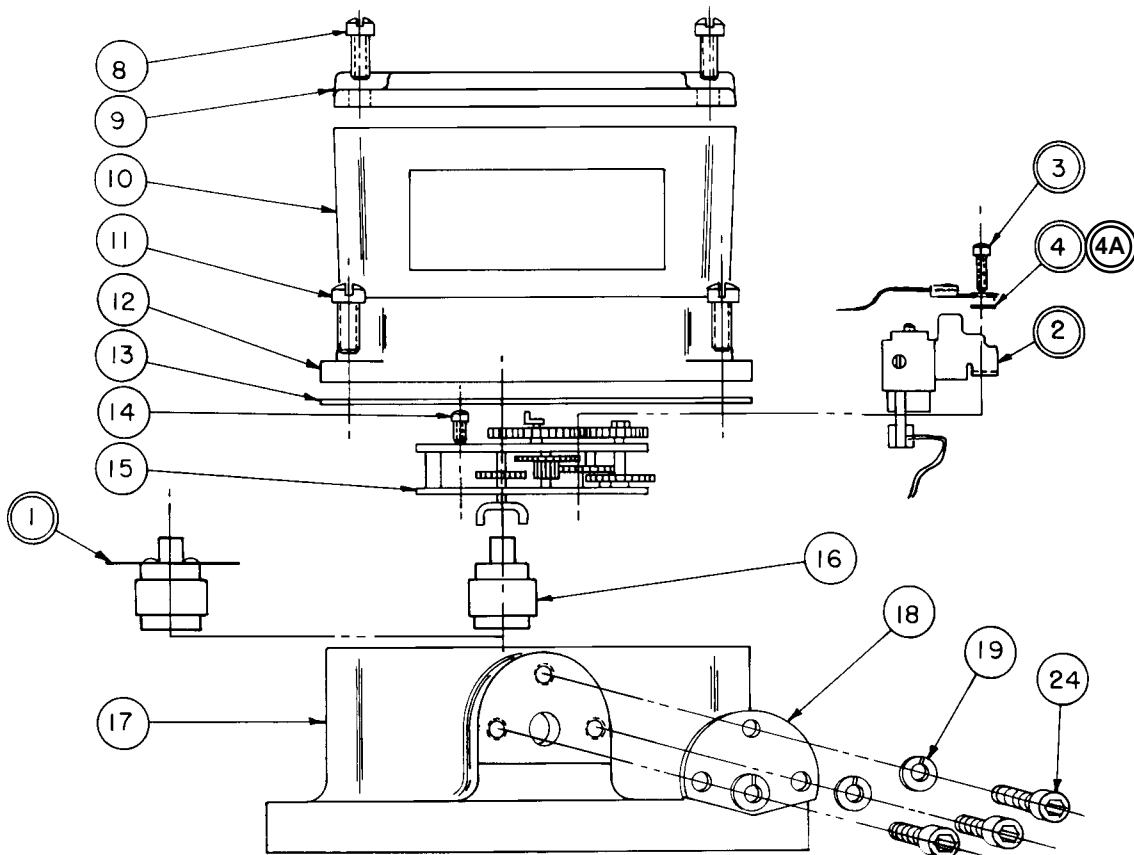
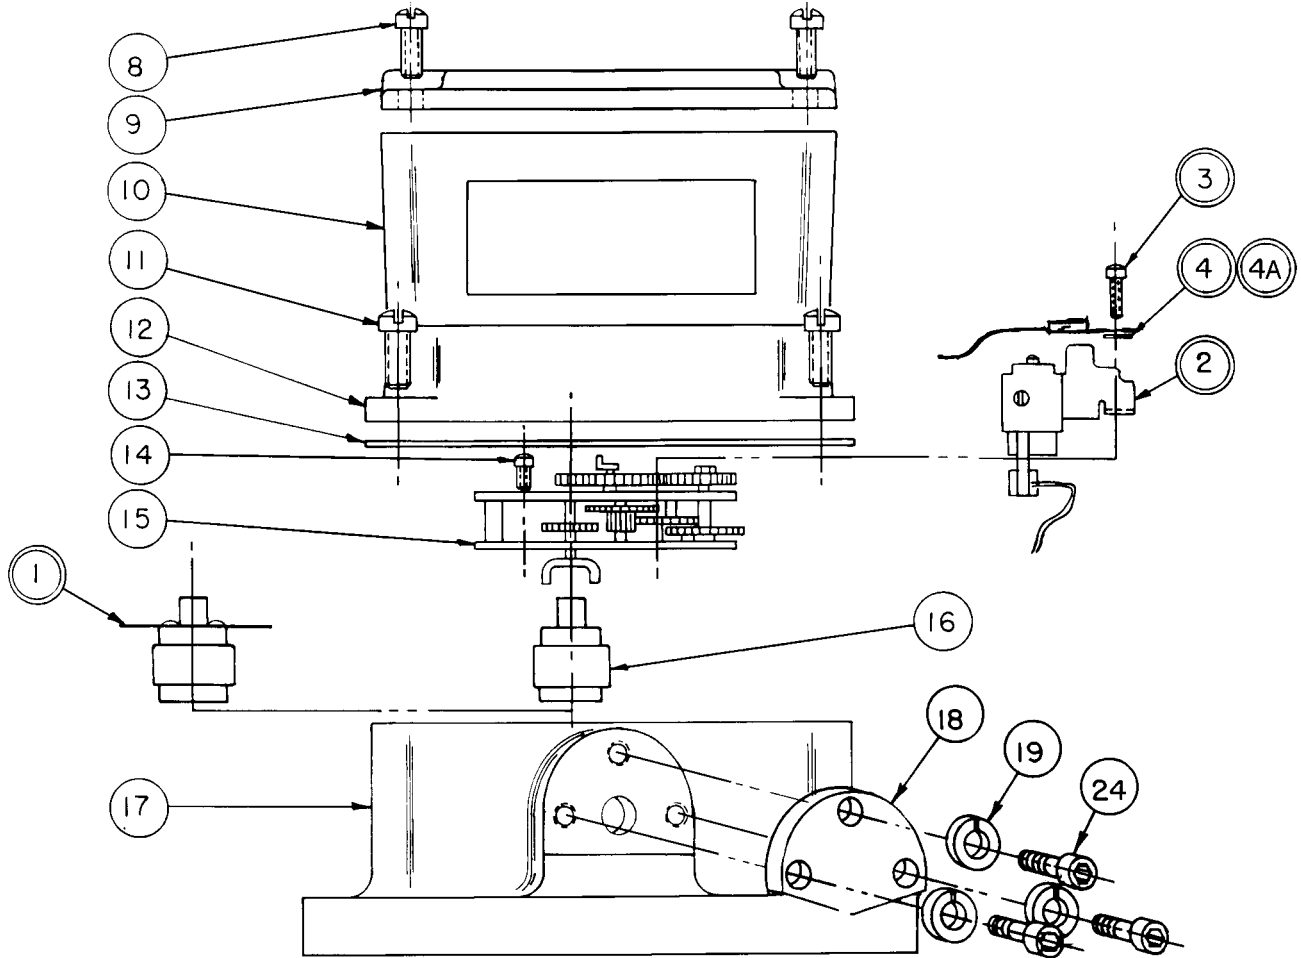

FIGURE 1
FIGURE 5
* Refer to call-out number on drawings Figures 1, 2, 3, and 4 for conduit assembly, and Figures 5, 6, 7, and 8 for plug-in assembly.
Disassembly (Refer to Figure 1 or 5)
Reassembly (Refer to Figure 1 or 5)
- 5 **For Conduit Connector (Figures 1,2,3, and 4):**
- a. For top plates with three hold probe connection drilling: assemble the flange adapter (6A) with the three lock washers (19) and cap screws (24). Then insert the short end of the wire of the 1/2" NPT conduit/wire adapter (5A) through the probe hole and screw the connection tight.
For Plug-in Connector (Figures 5,6,7, and 8):